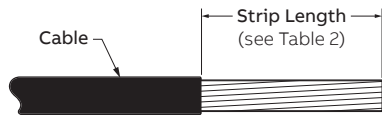

Figure 4
- Strip cable (Figure 4) to length found in tool die selection Table 2, page 4.